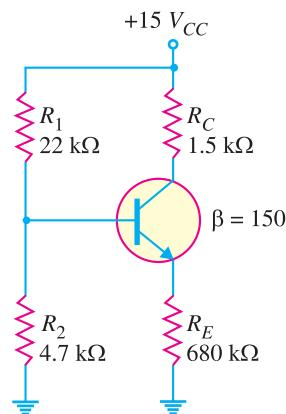

Fig. 9.56
15. What is the minimum value of  $\beta$  in Fig. 9.56 that makes  $R_{in(base)} \geq 10 R_2$  ? [69.1]